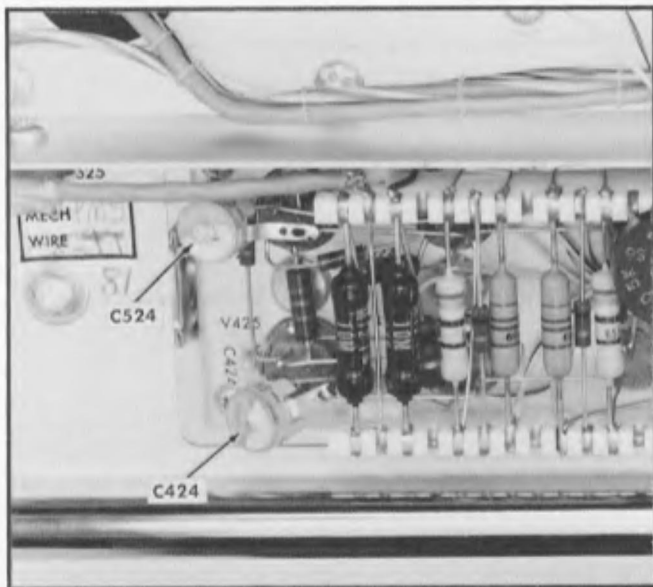
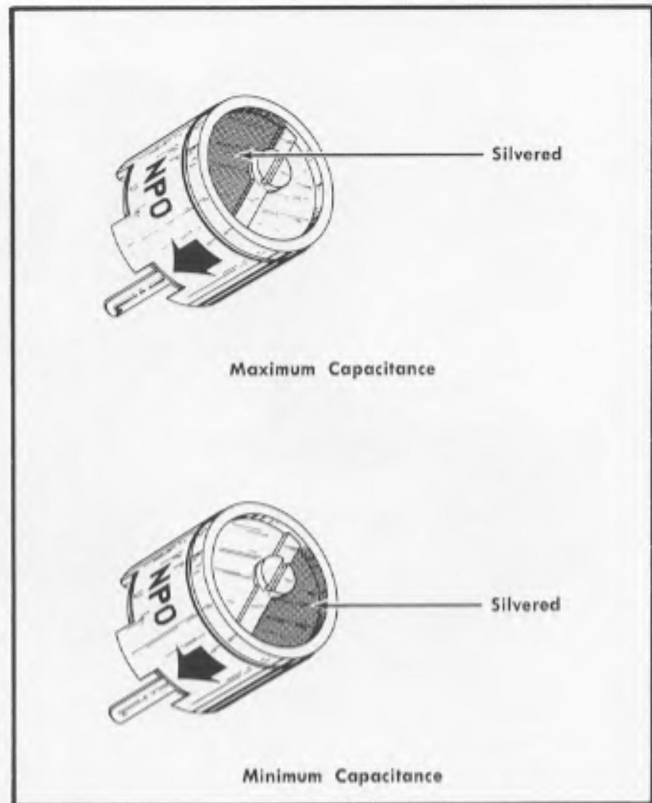

Fig. 6-14. Location of C424 and C524.
Fig. 6-15. Maximum and minimum capacitance settings of C424 and C524.
- j. Preset C424, Fig. 6-14, to maximum capacitance and C524, Fig. 6-14, to minimum capacitance as shown in Fig. 6-15.